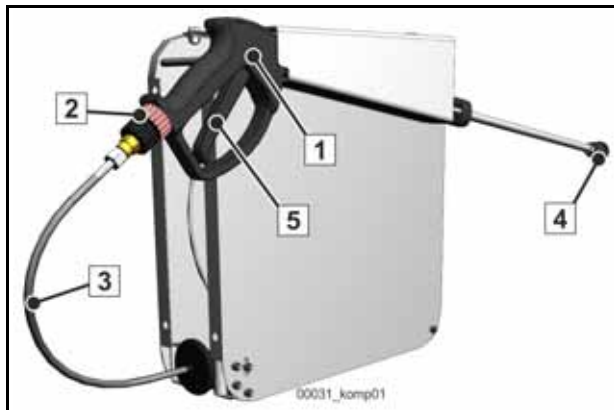

Fig. 478 Hose reel and spray lance
- Hold the spray lance tightly and direct the spraying nozzle (4) (**Fig. 478**) such that the water can flow out freely.
- Actuate the trigger of the spray lance (1) (**Fig. 478**) until water no longer escapes from the spraying nozzle.